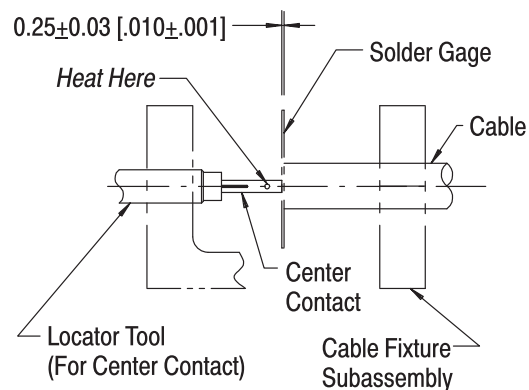

Figure 3
6. Place the center contact in the locator tool (for center contact). Heat the center contact, and slide it onto the center conductor until it rests firmly against the solder gage. See Figure 3.